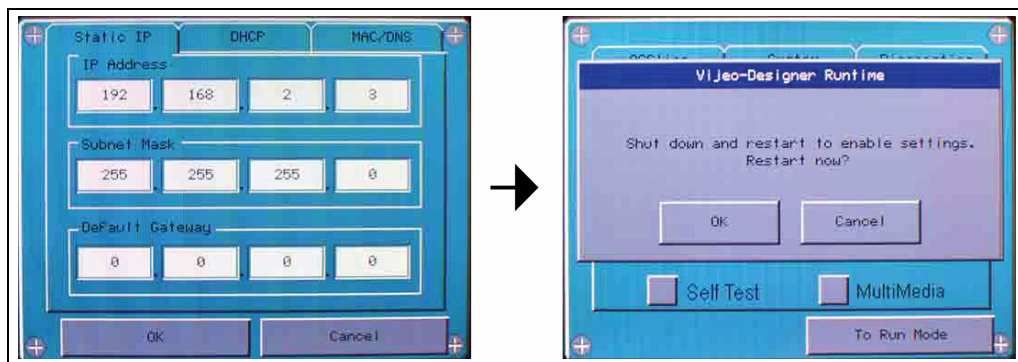

Figure 9Z
7. Press **“OK”** to shut down and restart to enable settings. (See Figure 9Z.)